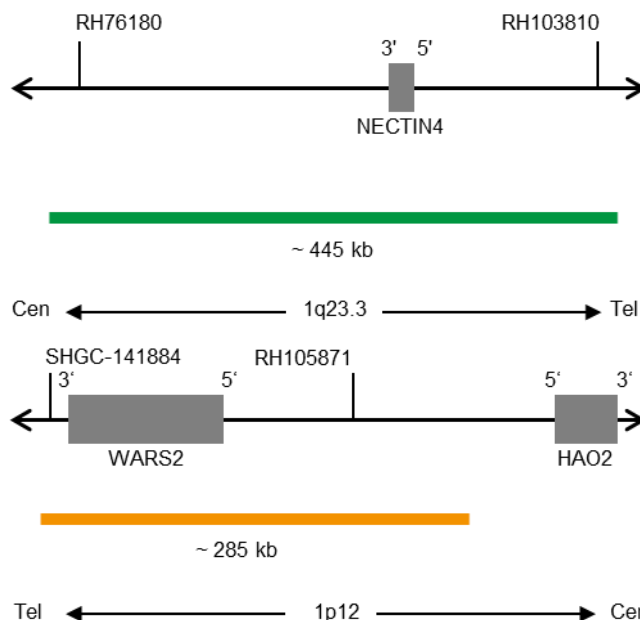

Fig. 1: Top: SPEC NECTIN4 probe map, Bottom: SPEC 1p12 Probe map (not to scale)
- ZyGreen (excitation 503 nm/emission 528 nm) labeled polynucleotides (~10 ng/μl), which target sequences mapping in 1q23.3\* (Chr1:160,773,463-161,218,427) harboring the NECTIN4 gene region (see Fig. 1).
- ZyOrange (excitation 547 nm/emission 572 nm) labeled polynucleotides (~4.5 ng/μl), which target sequences mapping in 1p12\* (Chr1:119,537,102-119,823,147) (see Fig. 1).